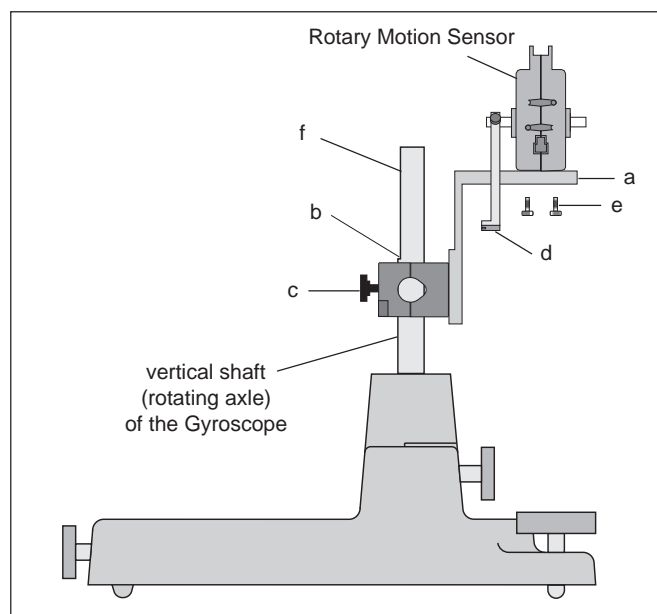

Figure 2
- ① Loosen the thumbscrew that secures the gyroscope assembly to the vertical shaft (rotating axle) and lift the gyroscope assembly off the vertical shaft.
- ② Slide the clamp onto the vertical shaft of the Gyroscope, the platform of the bracket facing up, [Figure 2 (a)].
- ③ Position the top of the clamp 1 mm below the flat of the vertical shaft (about 43 mm from the top of the shaft) [Figure 2 (b)]. Position the clamp's thumb screw perpendicular to the flat of the vertical shaft and tighten it [Figure 2 (c)].
- ④ Slide the connecting arm onto the RMS axle, with the forks of the slotted guide arm facing away from the RMS [Figure 2 (d)].
- ⑤ Secure the RMS to the bracket with the two small thumb screws [Figure 2 (e)].
- ⑥ Replace the gyroscope assembly, tightening the thumb-screw against the flat of the vertical shaft [Figure 2 (f)].